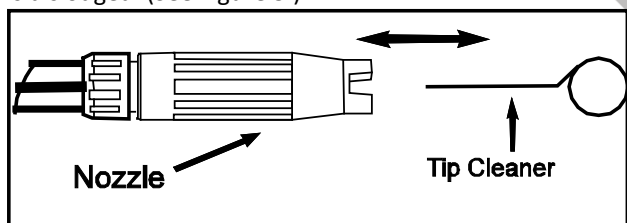

Figure 5- Insert tip cleaner in nozzle hole and move back and forth until debris is dislodged
- Using included tip cleaner, or an unfolded paper clip, insert wire into the nozzle hole and move back and forth until debris is dislodged. (See Figure 5.)